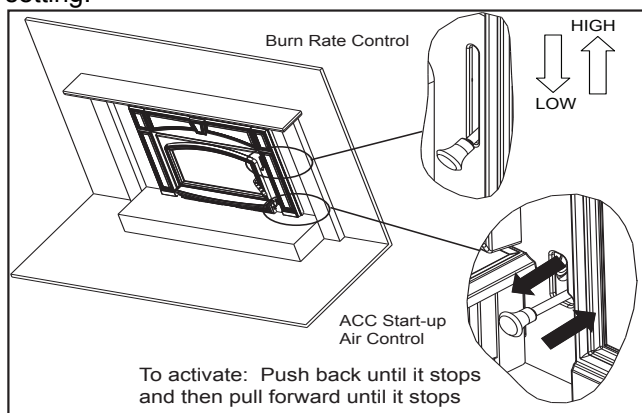

Figure 5.1 Start-up and Burn Rate Air Controls
- Push the Start-Up Air Control all the way back until it stops and then pull forward to the front of the appliance until it stops. **Figure 5.1.**
- The fire is now controlled by the air supplied by the Burn Rate Air Control. **Figure 5.1.**
2. Follow these burn rate instructions below and refer to **Figure 5.1.**